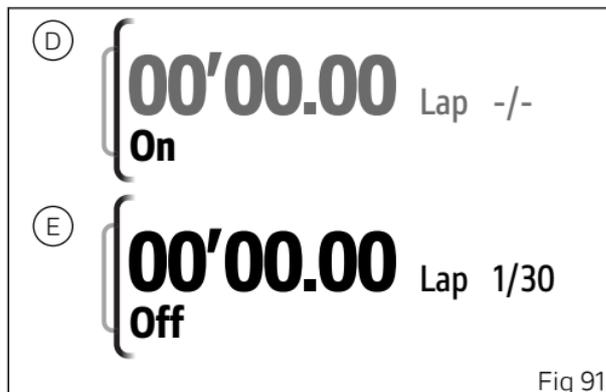

Fig 91
- If the function is disabled, "Off" is shown with the stopwatch (D, Fig 91); press ENTER button (3) to enable the function.
- If the function is enabled, "On" is shown with the stopwatch and indication of the available laps (E, Fig 91); press ENTER button (3) to disable the function.